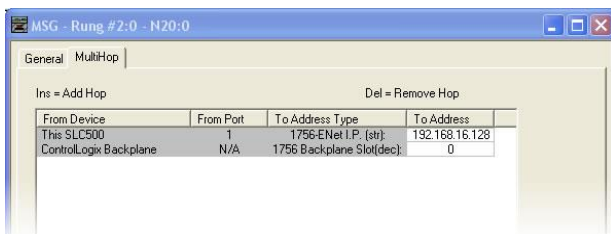

Figure 60: MSG Configuration, "MultiHop" Tab
- e) Under the "MultiHop" tab settings, set the "To Address" in the first row to the inverter's IP address, and the "To Address" in the second row to 0. Refer to Figure 60.